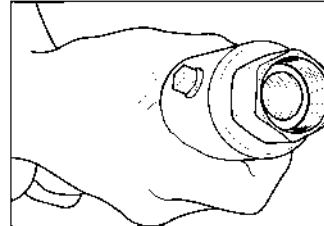

Figure: 4-54
8. Holding the black coupling, slide fitting up to capture split rings into nut. Be sure split rings slip all the way to the base of the internal threads. Assembly is now ready to be attached to the adapter on the equipment. Figure: 4-54